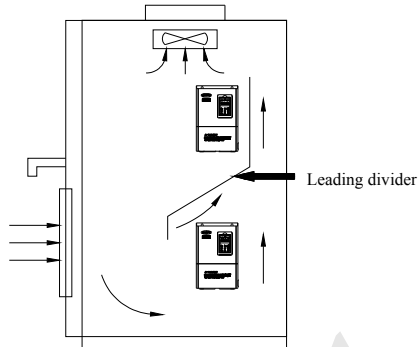

Fig.3-2 Mounting of multiple inverters
(3) When installing multiple inverters up and down, leading divider must be applied between them, see Fig.3-2.